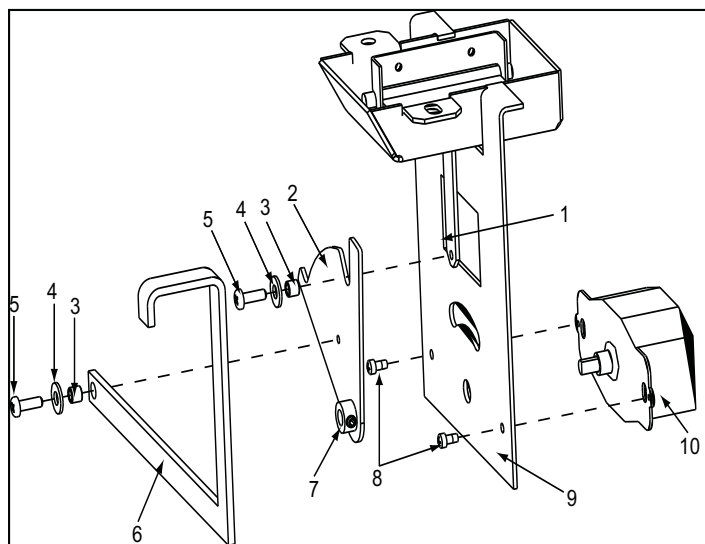

Figure 4.23 Exploded View of Entire Assembly for Point of Reference only
4. Rotate linkage control arm into final position and re-attach to mounting plate. Note that the D cut is now facing the linkage timer arm. Re-attach the linkage timer arm. Figure 4.23.